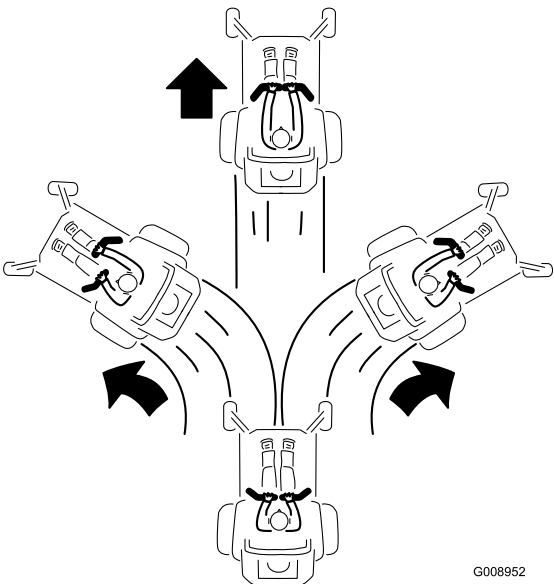

Figure 16
2. To go forward, slowly push the motion-control levers forward (Figure 16).
To go straight, apply equal pressure to both motion-control levers (Figure 16).
To turn, release pressure on the motion-control lever toward the direction you want to turn (Figure 16).